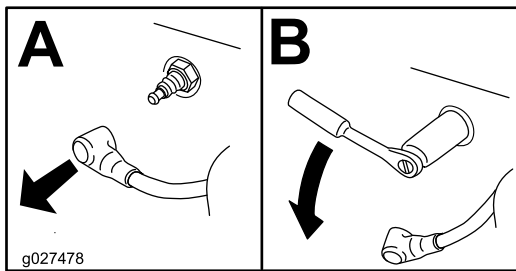

Figure 36
3. Remove the spark plug (Figure 36).